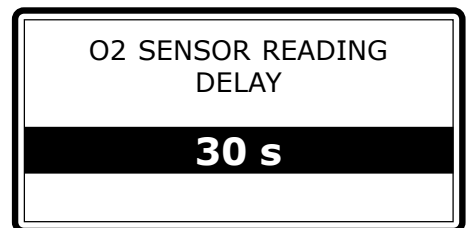

Fig. 29
- count the time elapsed between engine start and the point at which the voltage begins to toggle between 0,8 V and 0,2 V. This is the value that is to be entered in the "**O2 SENSOR READING DELAY**" (Fig. 29). We recommend adding a few seconds to this value. With this programming, the GALILEO ignores the Oxygen Sensor signal for the time programmed, and keeps the stepper motor at its DEFAULT value. The GALILEO becomes operational after the Oxygen Sensor has been "unlocked" by the E.C.U..